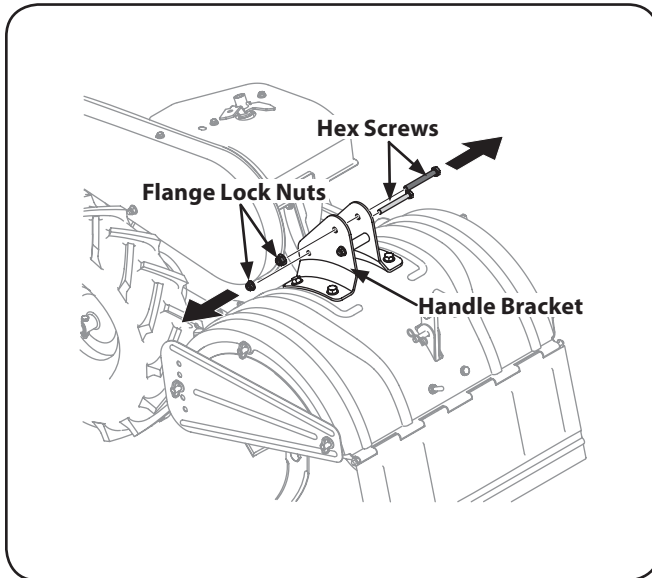

Figure 3-2
1. Remove the top two hex screws and flange lock nuts from the handle mounting brackets, but do not remove the bottom hex screw and flange lock nut. See Fig. 3-2.